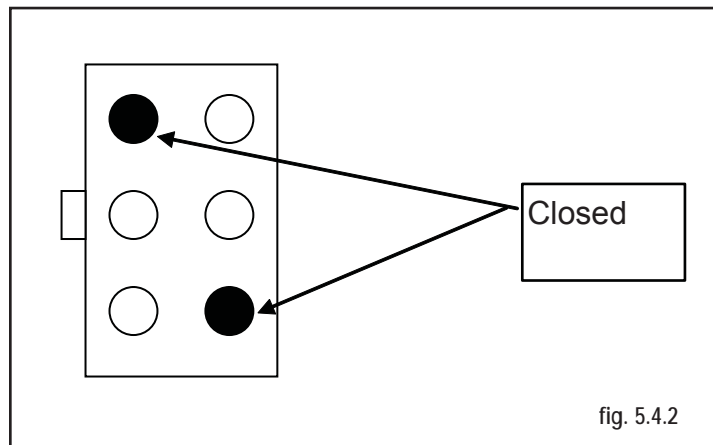

fig. 5.4.2
b. Use Multimeter and measure continuity between the indicated pins below on the 6-pin connector mounted on the tilt. When down the indication should be closed (fig. 5.4.2). If it is open, replace the micro-switch assembly. Refer to Tilt Actuator and Micro-Switch Removal section of this manual.